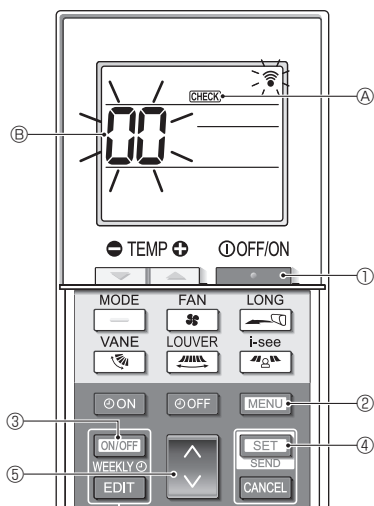

Fig. 7-6
■ Self-check (Fig. 7-6)
- Press the [ON/OFF] button ① to stop the air conditioner.
- If the weekly timer is enabled (WEEKLY is on), press the [ON/OFF WEEKLY] button ③ to disable it (WEEKLY is off).
- Press the [MENU] button ② for 5 seconds.
- Press the [DOWN] button ⑤ to select the refrigerant address (M-NET address) ⑥ of the indoor unit for which you want to perform the self-check.
- Press the [SET] button ④.
- Press the [ON/OFF] button ①.
- CHECK A and the refrigerant address (M-NET address) ⑥ go off and the self-check is completed.